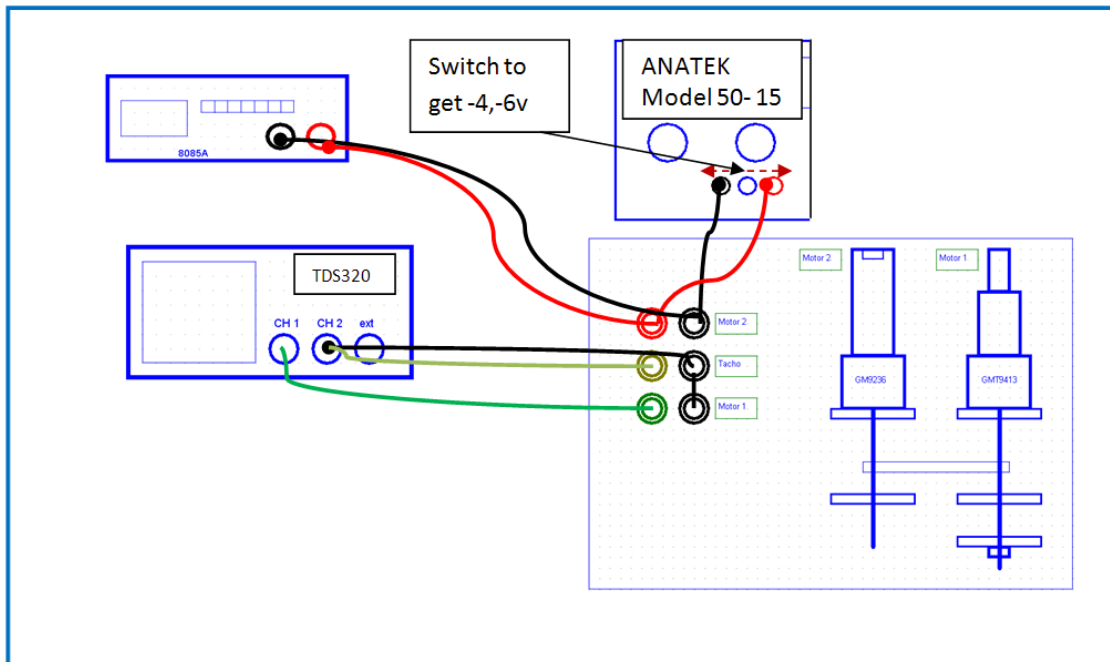

Figure 2-3
In this experiment we will be examining DC motors with tachometers. As shown in Figure 2-3, DC motor has two power supply wires at the base of the motor. The speed of the motor can be varied by applying an input voltage between 0 and 12V DC (although the actual turn-on voltage is higher than 0V, which is a dead band). The rotation of a magnetic field will induce current in the windings of wires in motor (back EMF). In a similar manner, the rotation of a magnetic field will induce current in the second windings of wires in motor (tachometer). The tachometer outputs a voltage which is proportional to the angular velocity of the motor. We will check the angular velocity ω output response with time when a step voltage input applied.
- 2) Connect the motor 1's green and black leads to Scope Ch1, and tachometer's leads (yellow and black for motor 1) to Scope CH2. Turn motor by hand and observe the motor's back-emf voltage displayed on CH1. As shown in Figure 2-3.